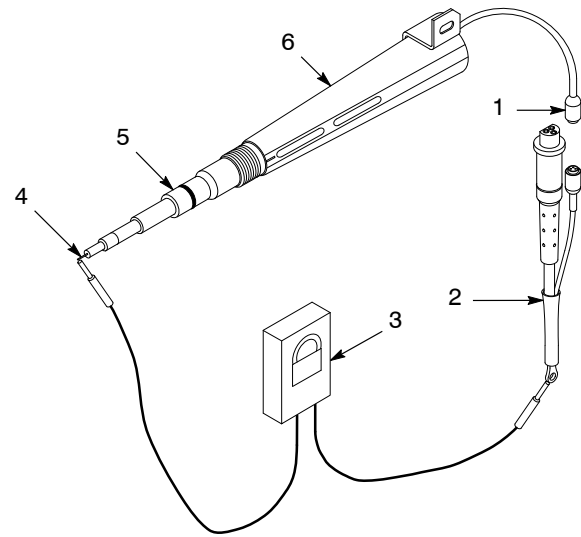

Figure 4 Multiplier/Resistor Assembly Resistance Check
1. See Figure 4. Connect the shorting plug (2) to the multiplier connector (1).
2. Connect the megohmmeter (3) probes to the shorting plug ring-tong terminal and electrode (4). If you get an infinite reading, switch the probes.